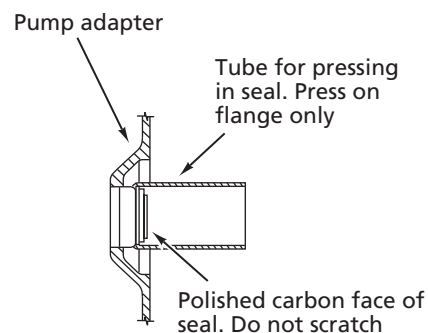

Figure 5
2. Clean the cavity in the adapter. Before installing, coat seal case with sealant compound. Press seal into adapter with a tube or pipe of the correct size to press on the seal rim only, as shown in Figure 5.